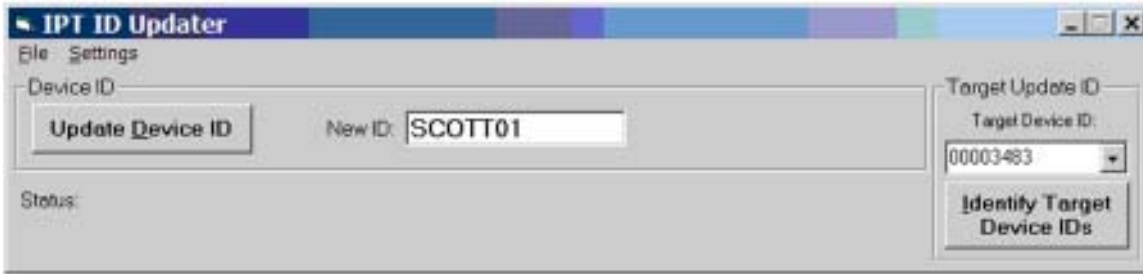

FIGURE 17
6. Type in the new ID. Use any combination of numbers and letters (upper and lower case) up to a maximum of eight (8) characters long. Click "Update Device ID." See FIGURE 17. If you type in too many characters, a RED Status screen will appear.